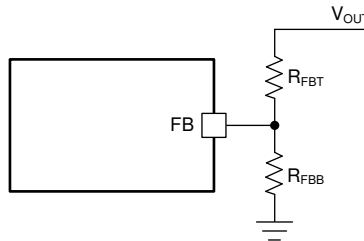

**Figure 8-1. SW Node and Inductor Current Waveforms in Continuous Conduction Mode (CCM)**
The following operating description of the LMR514x0 refers to Functional Block Diagram and to the waveforms in Figure 8-1. The LMR514x0 is a step-down synchronous buck converter with integrated high-side (HS) and low-side (LS) switches (synchronous rectifier). The LMR514x0 supplies a regulated output voltage by turning on the high-side and low-side NMOS switches with controlled duty cycle. During high-side switch ON time, the SW pin voltage swings up to approximately  $V_{IN}$ , and the inductor current,  $i_L$ , increases with linear slope  $(V_{IN} - V_{OUT}) / L$ . When the high-side switch is turned off by the control logic, the low-side switch is turned on after an anti-shoot-through dead time. Inductor current discharges through the low-side switch with a slope of  $-V_{OUT} / L$ . The control parameter of a buck converter is defined as Duty Cycle  $D = t_{ON} / T_{SW}$ , where  $t_{ON}$  is the high-side switch ON time and  $T_{SW}$  is the switching period. The converter control loop maintains a constant output voltage by adjusting the duty cycle  $D$ . In an ideal buck converter, where losses are ignored,  $D$  is proportional to the output voltage and inversely proportional to the input voltage:  $D = V_{OUT} / V_{IN}$ .